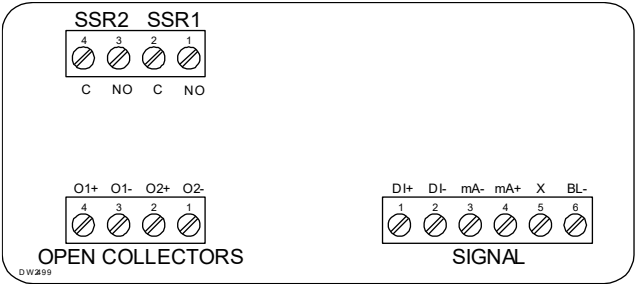
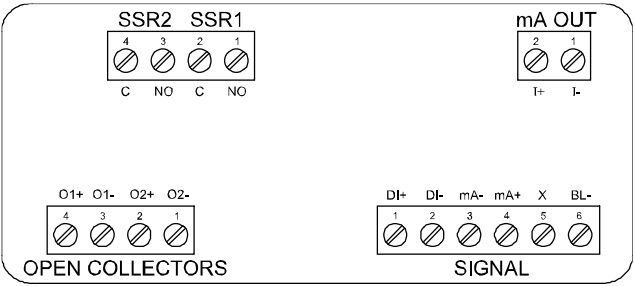

Figure 6. Connector Labeling for IDE20-#-D(B)-1
Figure 8. Connector Labeling for IDE20-#-D(B)-3
Relay connections are made to a four-terminal connector labeled SSR1 and SSR2 on *Figure 6. Connector Labeling for* and *Figure 8. Connector Labeling for* on page 39. Each relay's C terminal is common only to the normally open (NO) contact of the corresponding relay.